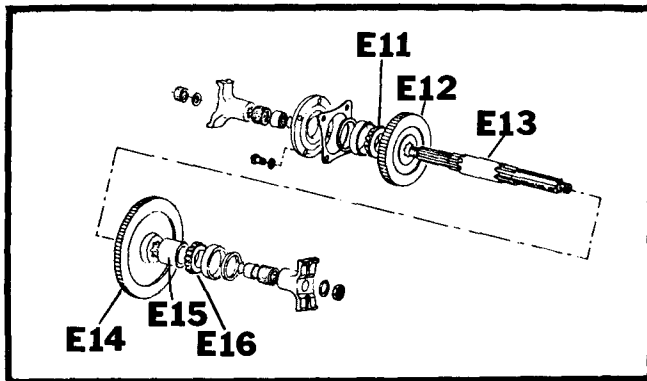

Figure 46
3. Press bearing cones (E-11 and E-16) onto their respective ends of output shafts (E-13) (Figure 46).